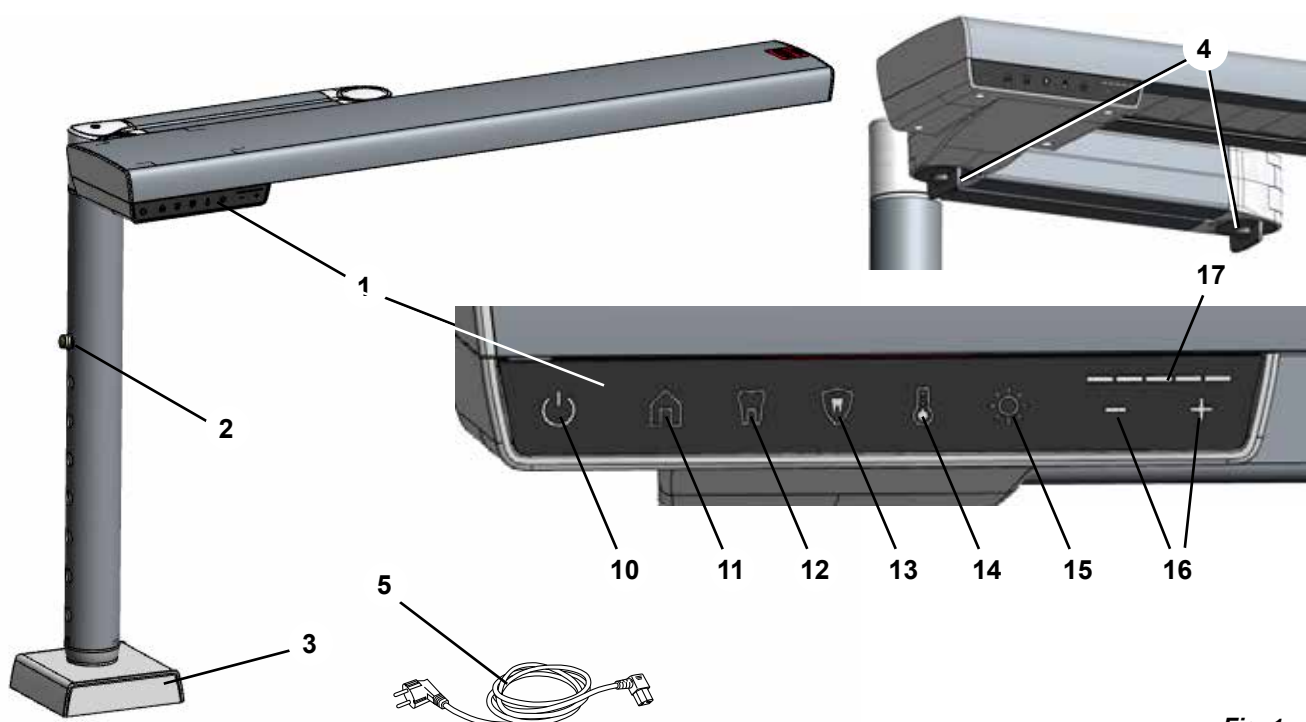

Fig. 1
- ⇒ Press in the height adjustment lock (2, Fig. 1) and pull out the inner tube on the base to the maximum position.
To determine the appropriate mounting location, loosen the joint lock (4, Fig. 1) and check that you can move the workstation light to the optimal position described above (Chapter 4.2.1).
- ♦ The brightness button (15, Fig. 1) lights up.
- ♦ The current brightness value is displayed in the intensity display (17, Fig. 1).